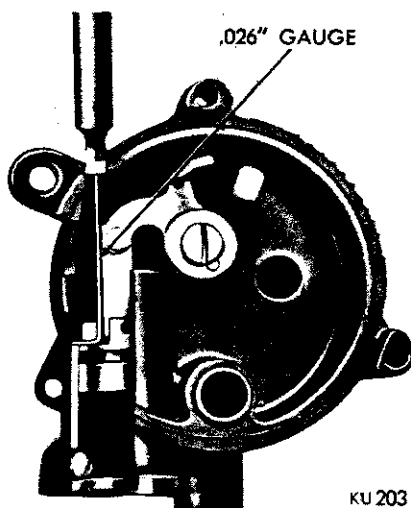

Fig. 15—Choke Piston Indexing
(2) Remove throttle return spring so throttle can be set to a mid position.
(3) Let choke blade go wide open.
(4) Insert an .026 inch wire gauge* into choke piston slot so that hook on the end goes into slot in cylinder (Fig. 15).
(5) Push on choke piston lever thermostat tang trapping the wire gauge between piston and cylinder slots with linkage hanging free.
(6) Adjust the link connecting the choke shaft to the choke piston lever by bending the link at an angle to give correct opening between choke valve and wall of air horn. (Refer to Specifications). Remove wire gauge before bending link.
(7) Reassemble choke, setting the coil two notches rich and install the throttle return spring.